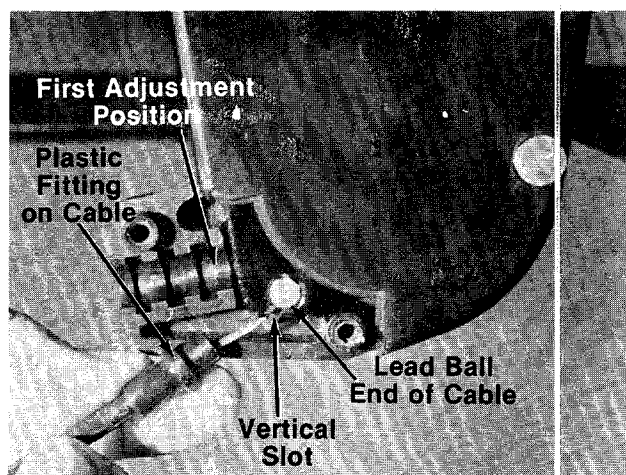

FIGURE 9.
- a. Place the lead ball end of the cable into the fitting provided in the end of the clutch control lever. Slip the braided wire into the vertical slot as shown in figure 9.
c. Place the plastic fitting on the control cable into the first adjustment position in the clutch control housing. See figure 9.
When starting the unit for the first time, face the mower against a solid object such as a wall, fence, etc. Start the unit, and if it shows any signs of motion with the drive clutch control disengaged, shut the engine off immediately. Check the position of the drive clutch control cable. The plastic fitting must be assembled in the first adjustment position inside the housing, all the way to the right, as shown in figure 9.